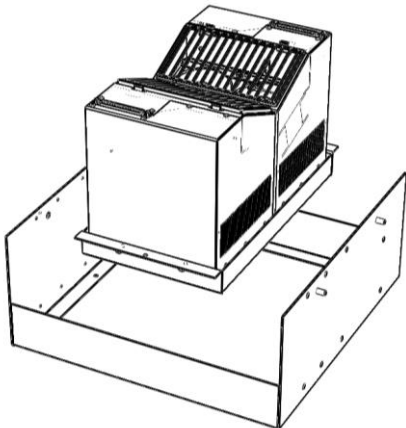
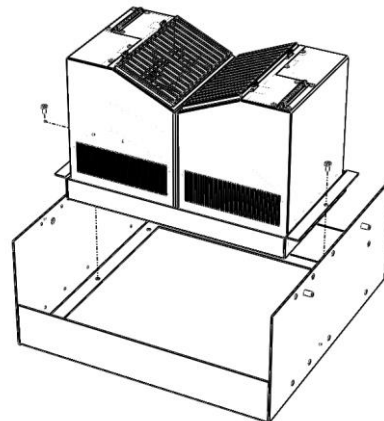

Figure 8. LED Arrays & Conveyor Cradle, In-Line Position
Figure 9. LED Arrays & Conveyor Cradle, Side-By-Side Position
**NOTE:** The Retrofit Kit can be installed on the Conveyor Cradle in an in-line (Figure 8) or side-by-side (Figure 9) position as required by your application need.